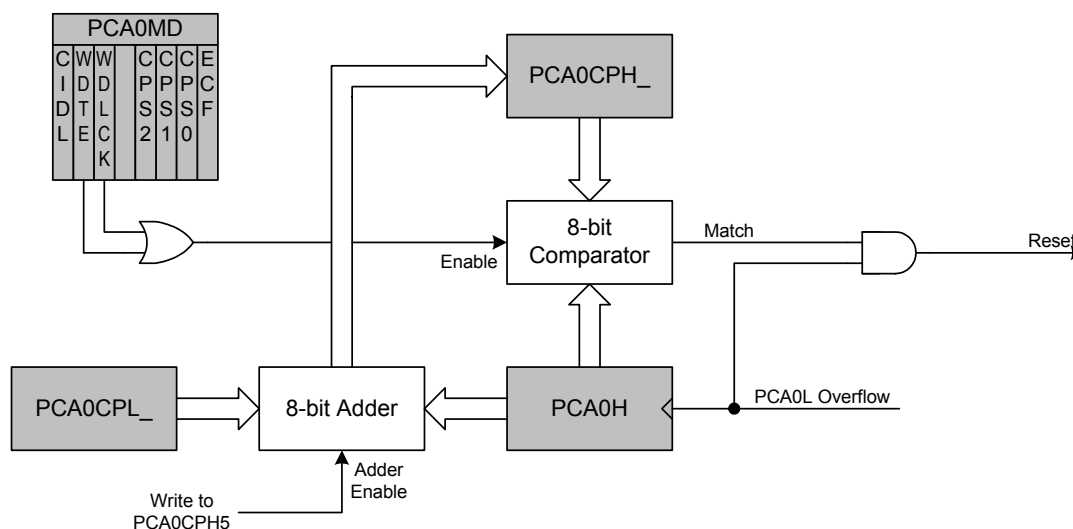

Figure 20.10. PCA Module 2 with Watchdog Timer Enabled
While the WDT is enabled, writes to the CR bit will not change the PCA counter state; the counter will run until the WDT is disabled. The PCA counter run control (CR) will read zero if the WDT is enabled but user software has not enabled the PCA counter. If a match occurs between PCA0CPH2 and PCA0H while the WDT is enabled, a reset will be generated. To prevent a WDT reset, the WDT may be updated with a write of any value to PCA0CPH2. Upon a PCA0CPH2 write, PCA0H plus the offset held in PCA0CPL2 is loaded into PCA0CPH2 (See Figure 20.10).